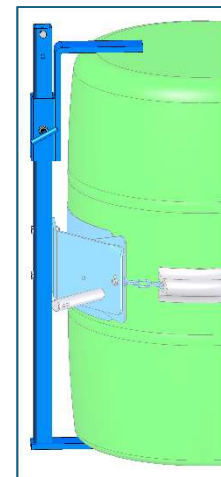

Figure 2.1
- 1. Bracket Assembly Kit # 4556-P** is **required** to handle a RIMLESS plastic drum (figure 2.1) and is also recommended for a fiber drum. The Bracket adjusts for a 31" to 39" (79 to 99 cm) tall drum. You can also handle a rimmed drum with the Bracket installed.